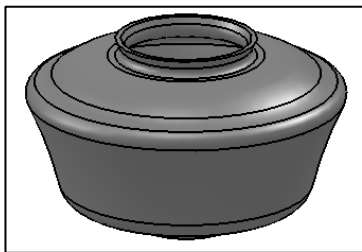

FIG.5 – GLASS SHADE
4. GLASS SHADE (shown in FIG.5)